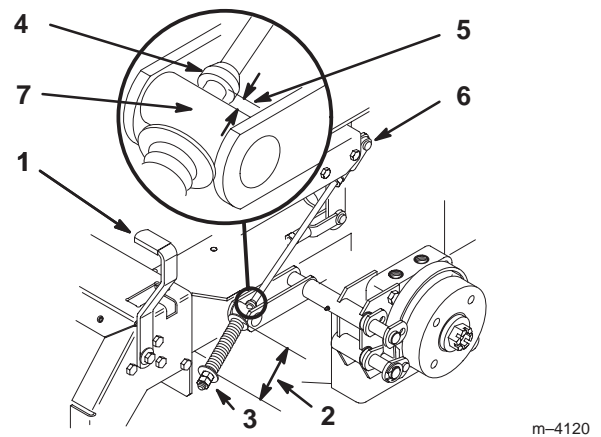

Figure 62
2. Measure the length of the spring. The measurement should be 2-3/4 inch (70 mm) between the washers (Fig. 62).
3. If an adjustment is necessary, loosen the jam nut below the spring and tighten the nut directly below the yoke (Fig. 62). Turn the nut until the correct measurement is obtained. Tighten the two nuts together and repeat on the opposite side of the unit.
6. Measure the distance between the trunnion roller and the collar on brake rod. The measurement should be 3/16-1/4 inch (5-7 mm) (Fig. 62).
7. If an adjustment is necessary, loosen the jam nut directly below the yoke. Turn the bottom adjusting nuts until the correct measurement is obtained (Fig. 62). Tighten the jam nut at the yoke.